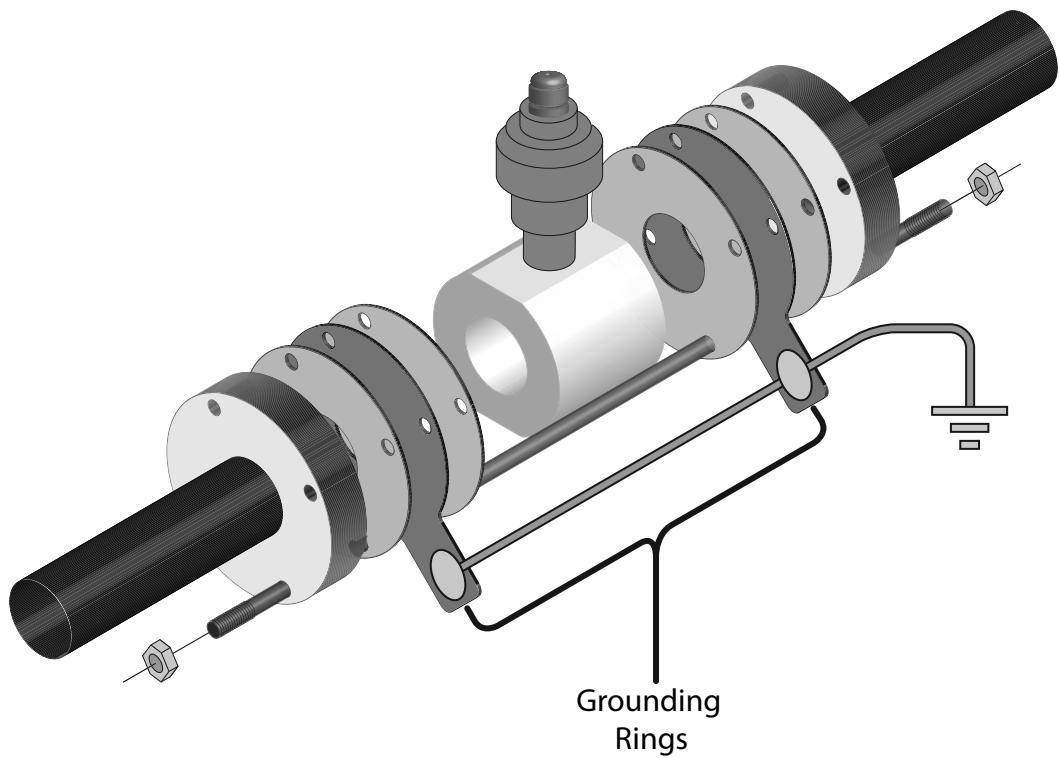

FIGURE 13
- 5) The use of grounding rings is recommended when metal pipes are used in conjunction with this meter. **See figure 13**